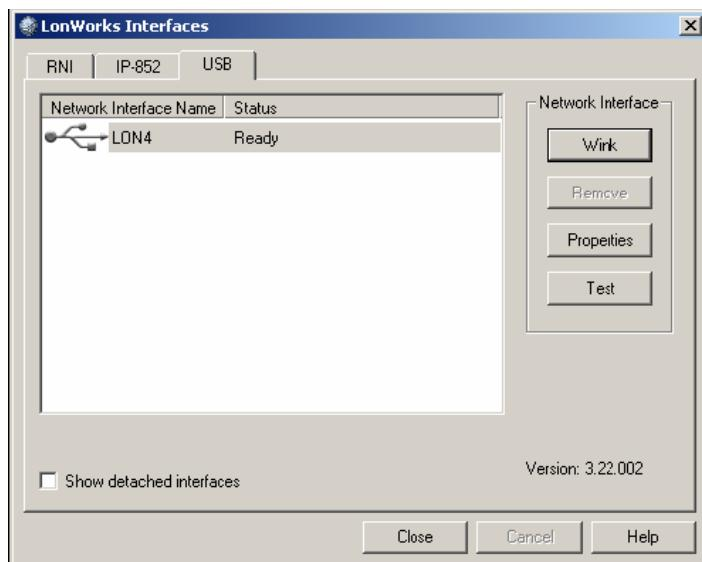

Figure 32: LONWORKS Interfaces Dialog Box — USB Tab
3. Click the USB tab (Figure 32).